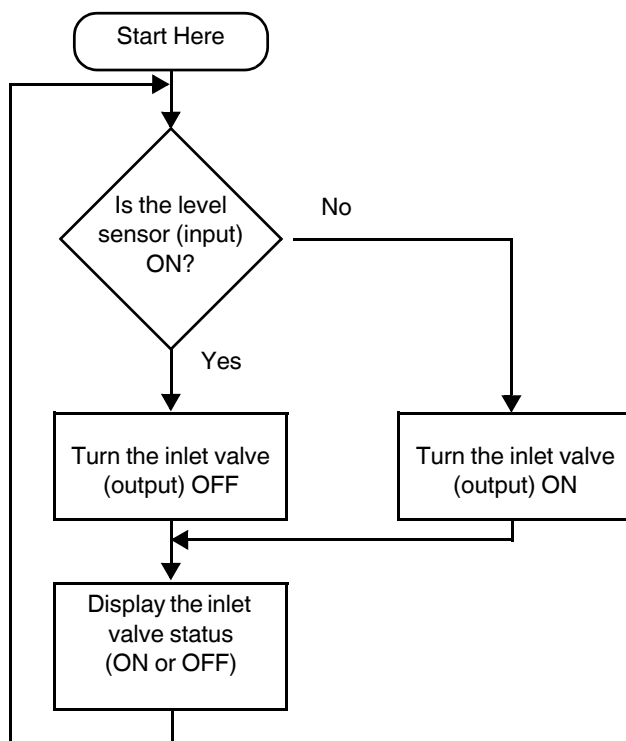

Figure 1-2 Project logic
This example uses one of the red switches (input) included with the nanoLC starter kit to simulate a sensor in the water tank. When the switch is ON, it will mean that the water is at the proper level and the inlet valve must be turned off. If the switch is OFF, it will mean that the water has drained below the proper level and the inlet valve must be turned on to refill the tank. An LED light (output) will simulate the valve being opened (ON) or closed (OFF). The nanoLC Operator Panel is used to display the status of the valve (ON or OFF). Figure 1-2 below graphically shows the flow of the project logic.